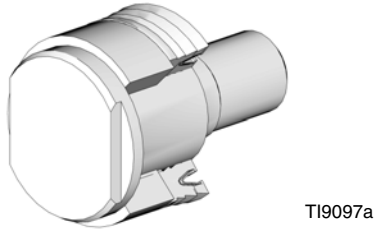

FIG. 5: U-Cup Orientation
1. Install piston rod seal; ensure u-cup faces piston rod as shown in FIG. 5.